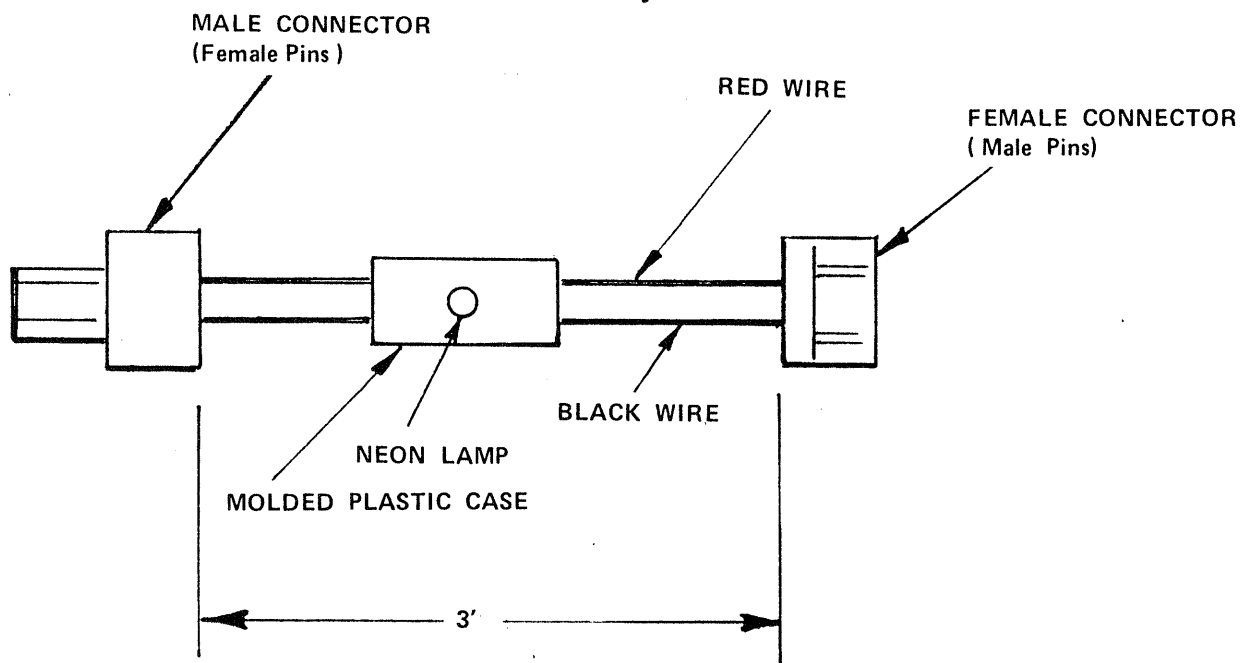

Figure A-2
2. SHORT TEST INDICATOR CABLE ASSEMBLY (Figure A-2) used in high voltage line